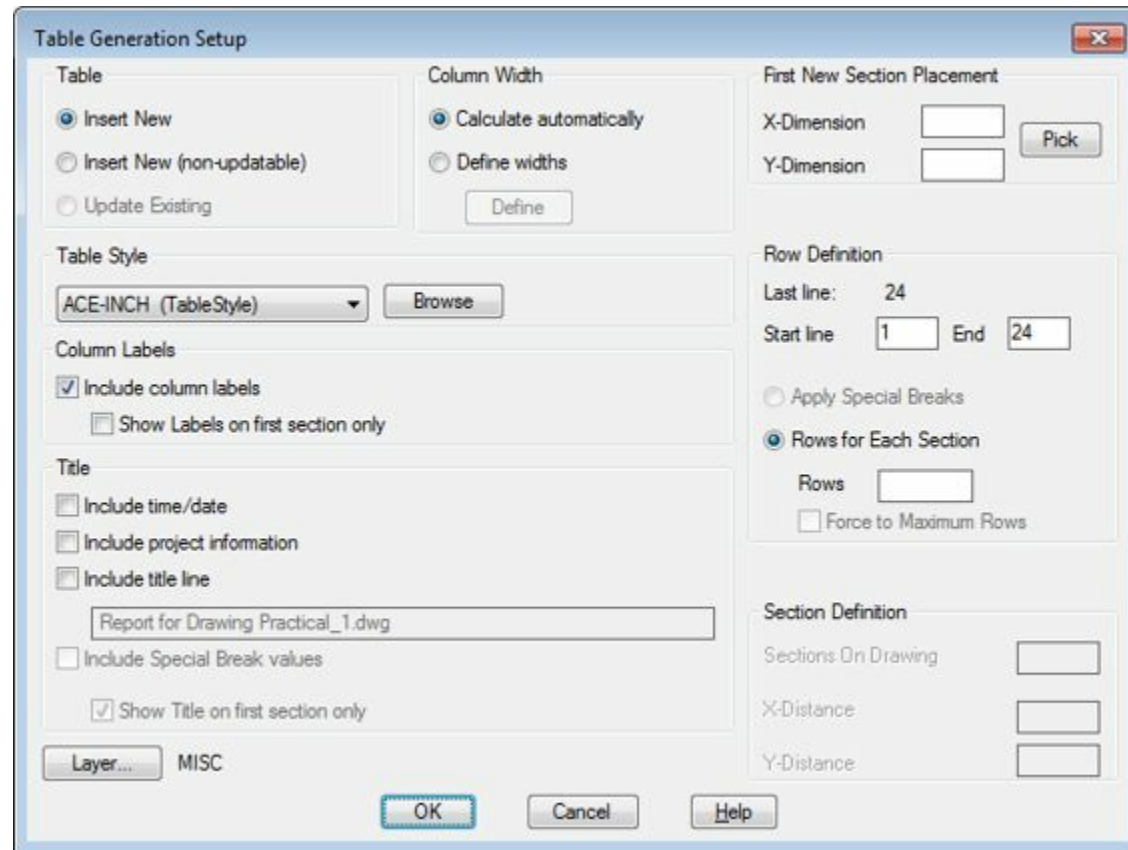

Figure-8. Table Generation Setup dialog box
- Now, we are ready to insert the report in the drawing. Click on the **Put on Drawing** button from the **Report Generator** dialog box. The **Table Generation Setup** dialog box will be displayed; refer to Figure-8.